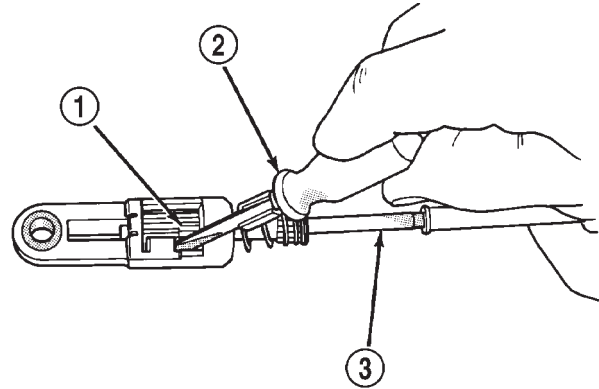

Fig. 444 Cable Lock Mechanism
- (1) Remove upper steering column shroud.
- (2) Rotate cable adjuster into unlock position. Use a straight blade screwdriver to unlock adjuster (Fig. 444).